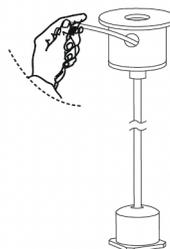

Fig. 27
6. Adjust the length of the safety cable after locked (Fig. 27).